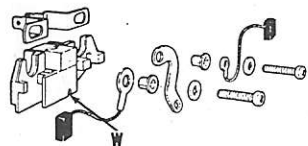

Fig. 190—Exploded view of brush holder assembly. Insert wire in hole (W) to hold brushes up. Refer to text.
Brushes are available only in an assembly which includes brush holder (13). Brush springs are available for service and should be renewed if heat damage or corrosion is evident. When reassembling, install brush springs and brushes in holder, push brushes up against spring pressure and insert a short piece of straight wire through hole (W—Fig. 190) and through end frame (16—Fig. 188) to outside. Withdraw the wire only after alternator is assembled.